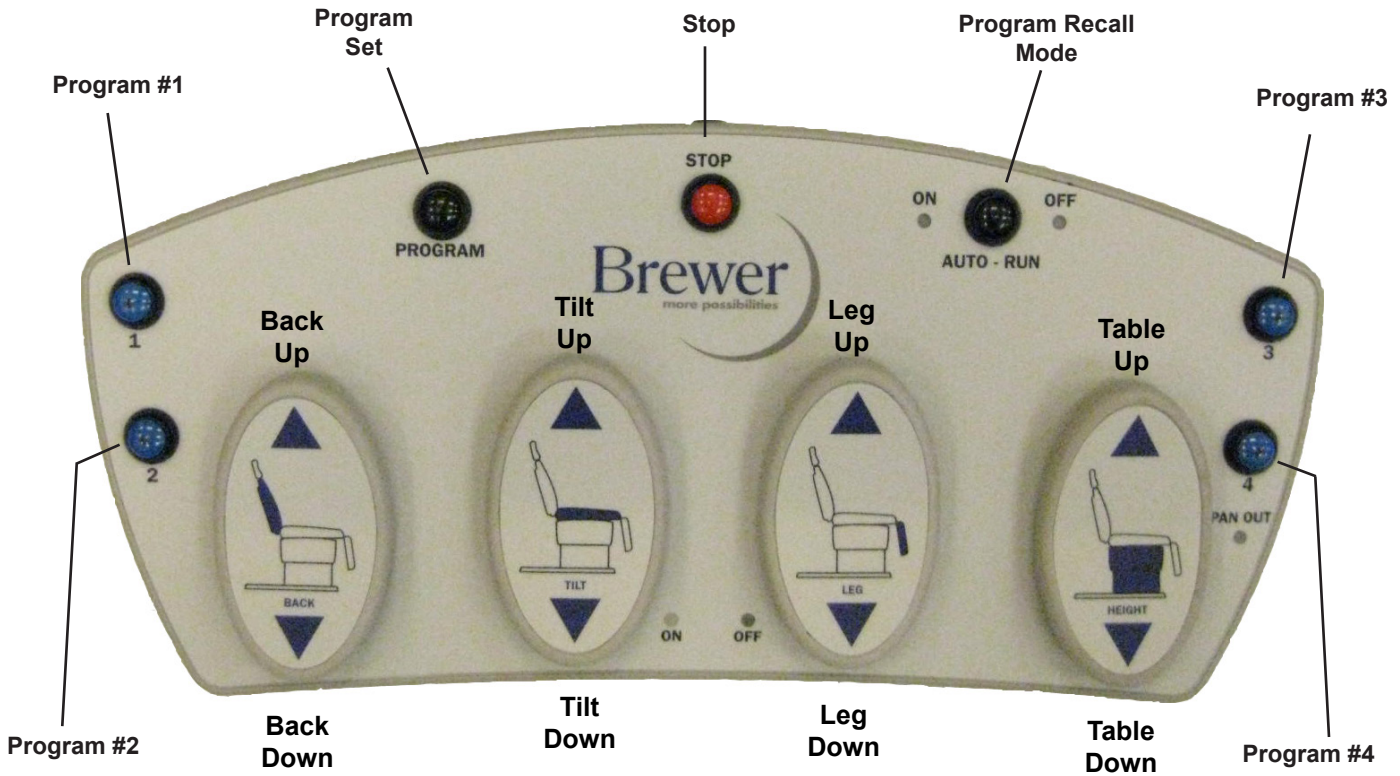

Figure 10
1. See Figure 10 for the pedal and button identifications on the foot control